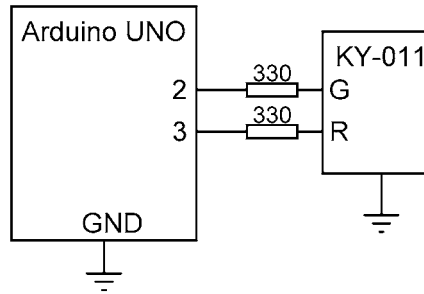

Figure 1.5 Circuit diagram of the project
**Circuit diagram:** The circuit diagram of the project is shown in Figure 1.5. The green and red LED pins are connected to port pins 2 and 3 of the Arduino Uno respectively through current limiting resistors. The GND pin is connected to Arduino Uno GND pin. The value of the current limiting resistor is calculated as follows:
In Figure 1.5 the LED is operated in current sourcing mode where a high output from the I/O pin drives the LED. The LED can also be operated in current sinking mode where the other end of the LED is connected to +5V supply and not to the ground. In current sinking mode, the LED is turned ON when the I/O pin is at logic low.